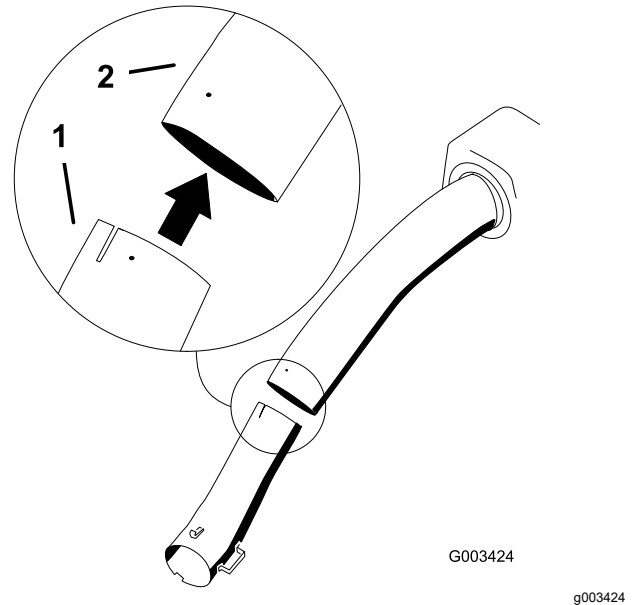

Figure 42
5. Install the lower tube into the upper tube (Figure 42).